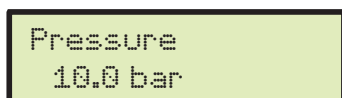

Fig. 68
- Press **OK** to automatically pass to the setting screen of the reference pressure (Fig. 68).